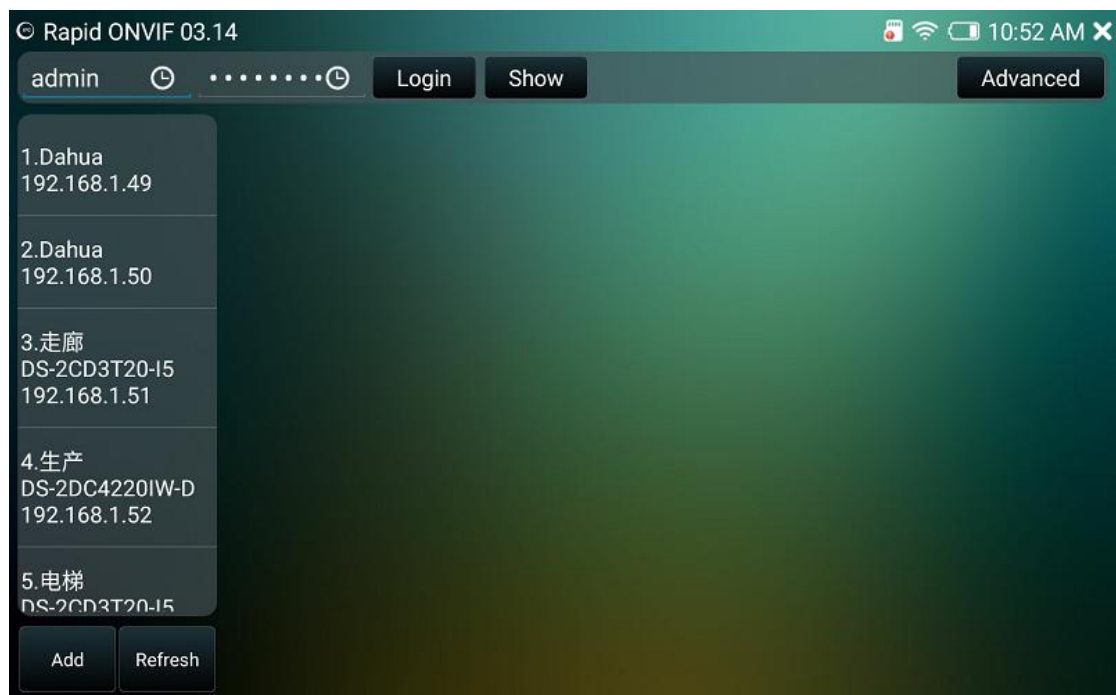

Figure 17
Touch the Rapid ONVIF icon to enter this App function, in the state of connecting to network, the instrument will scan ONVIF cameras in LAN automatically, after scanning for 1-2 seconds, Scanned ONVIF IP cameras will be listed on the left, for cameras do not require authentication, you can view the video image by touching the camera directly, for cameras that require authentication, input username and password to log in and view the image, as shown in Figure 17
1) Input the username and password in the second column, touch the login button, by default, username and password are both 'admin', if it prompts error username or password, touch log out to edit the value. By default, it logins automatically, you can disable it in advanced setting menu. Click the small  icon on the right of username and password to view or delete the history username and password records, as shown in Figure 17